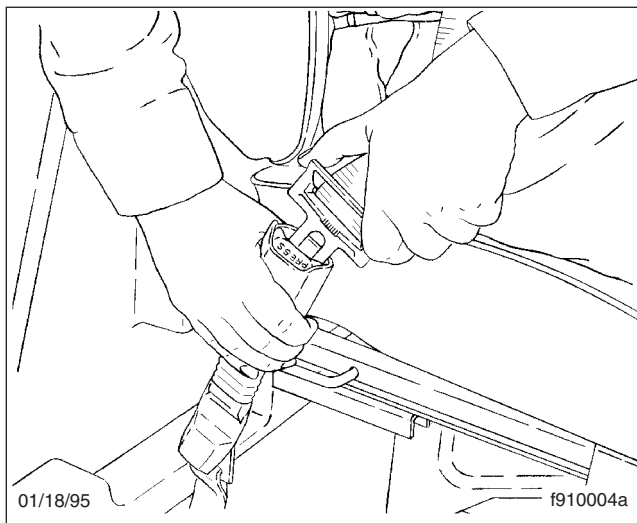

Fig. 5.31, Fastening the Three-Point Belt
2. Fasten the three-point seat belt by pushing the latch into the buckle. Listen for an audible click. See **Fig. 5.31**.